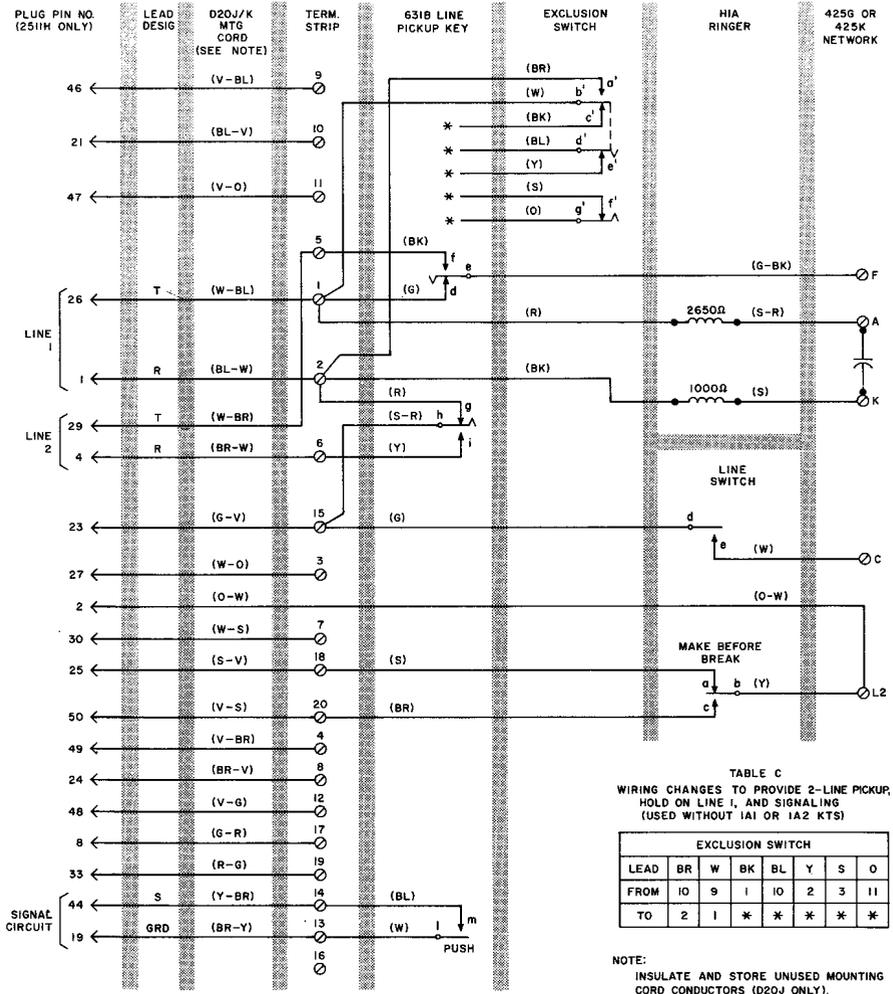

FIGURE 4. 2511F/H Telephone Set Connections, 2 Line Pickup, Hold on Line 1, and Signaling (Used Without 1A1 or 1A2 Key Telephone Systems)
- h. 2511F/H Telephone Set Connections, 2 Line Pickup, Hold on Line 1 and Signaling (Used Without 1A1 or 1A2 Key Telephone Systems)—Figure 4.